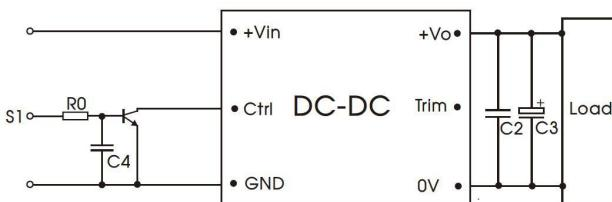

Fig.2
- (1) We recommend using EMC circuit, otherwise please ensure that at least a 100µF electrolytic capacitors is connected at the input in order to ensure adequate voltage surge suppression and protection.
- (2) Output ripple can be further reduced by appropriately increasing the output capacitor values Cin, Cout and/or by selecting capacitors with a low ESR (equivalent series resistance). Also make sure that the capacitance is not exceeding the specified max. capacitance load value of the product.
- (3) The recommended circuit for Ctrl function please refer to Fig.2.